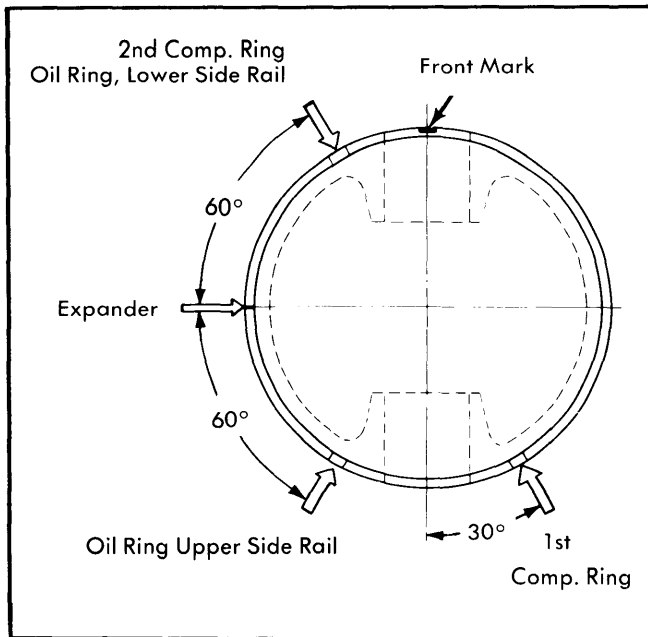

Fig. 7 Piston Ring Position & Piston Marking
2) Arrange ring gaps as shown in Fig. 7. Mark on head of piston should point toward front of engine. Using ring compressor, push piston head in until connecting rod contacts crankpin. Head of piston should be approximately .016" (.4 mm) below face of block when at TDC.
7) When all rings are installed, apply engine oil and see that rings move freely in grooves. Weigh piston and rod assemblies. Variation in weight should be less than .42 oz. (12 gms). Adjust gaps as shown in Fig. 7 and install pistons in block.